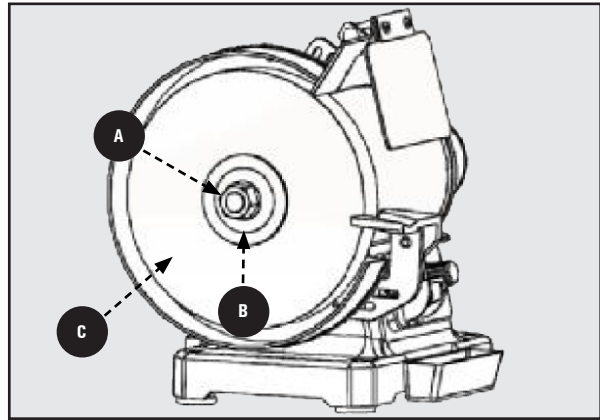

Figure 9
1. Remove the (2) screws and the lower locking knob and carriage bolt that secures the tool rest supports. These secure the outer face of the wheel guard to the tool frame.
4. Remove the arbor nut **A**, wheel flange **B**, and old grinding wheel **C**. See Figure 9.
7. Replace the wheel guard and secure with the (2) screws, carriage bolt, lower locking knob, and tool rest support previously removed in step 1.